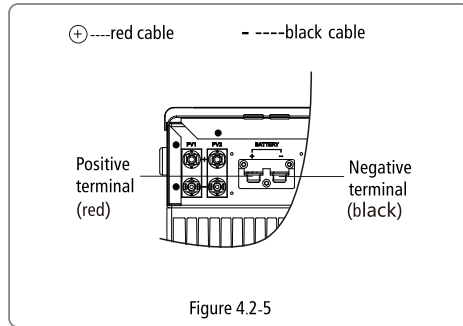
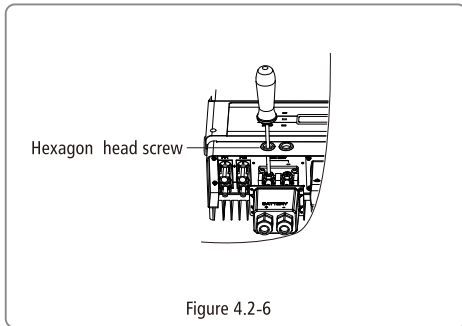
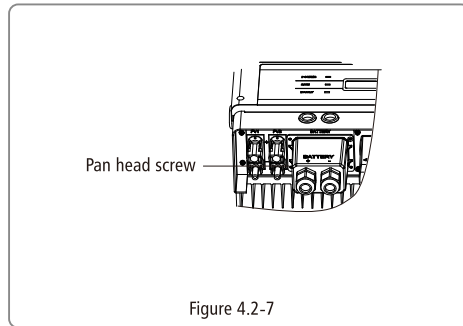

Figure 4.2-5
Figure 4.2-6
Figure 4.2-7
- (7) Put battery terminals into the corresponding holes (Red to the positive terminal; Black to the negative terminal.) and fasten them by screwdriver and spanner (recommended torsion:50~70Kg-f.cm), then fasten battery cover with pan head screws in accessory bag. Refer to Figure 4.2-5, Figure 4.2-6, Figure 4.2-7.
- (8) Screw down screw cap again.